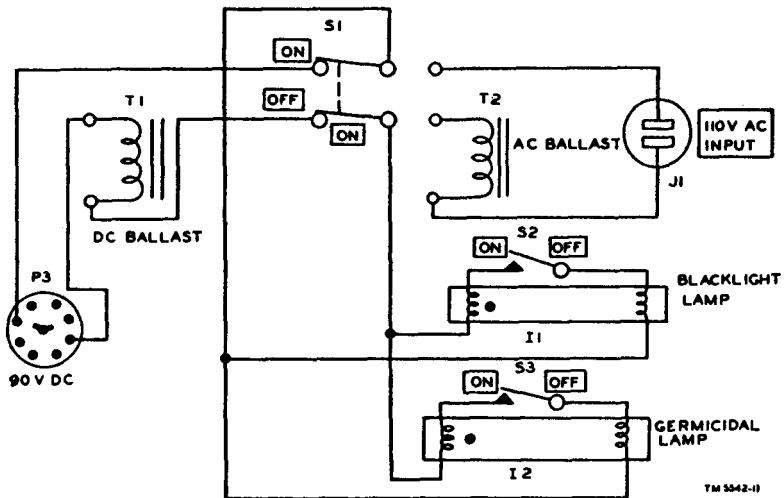

Figure 9. Schematic diagram.
b. If the power is satisfactory, disconnect the equipment from the power source. Use the multimeter to check continuity of the lamp circuit through plug P3 (fig. 9), ballast T1, and switch S1, to switch S2 and lamp I 1 and to switch S3 and lamp I 2. Then check continuity through from connector J1 and ballast T2 to switch S1. Be sure each switch is closed when it is checked. If a break in the wiring is localized by the continuity tests, resolder the connection or replace the broken wire, as necessary. Replace any switch or ballast shown to be defective by the tests.